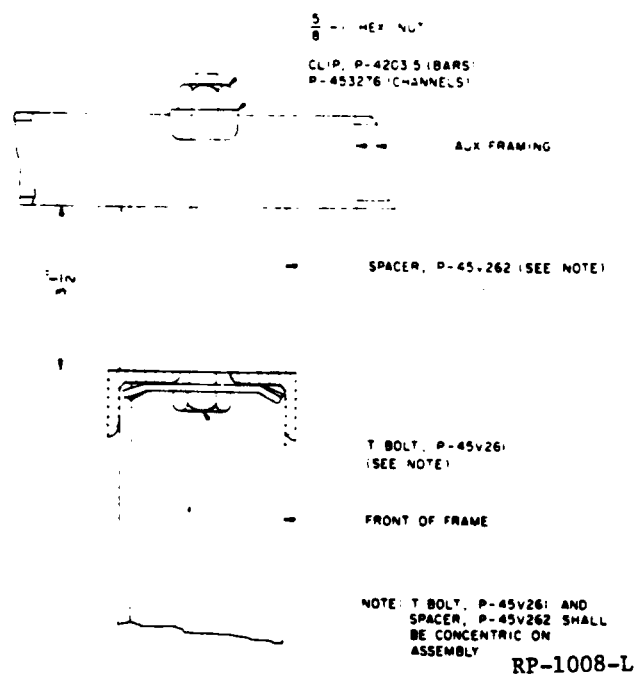

FIG. 12F AUXILIARY FRAMING ATTACHED TO TOP ANGLES OF BULB ANGLE-TYPE FRAMES
2.51 Bulb angle frames such as the fuse bay should be attached to No. 5 Crossbar-type auxiliary framing, as shown in Figure 12F.
(BSP 800-614-155, Fig. 12F)